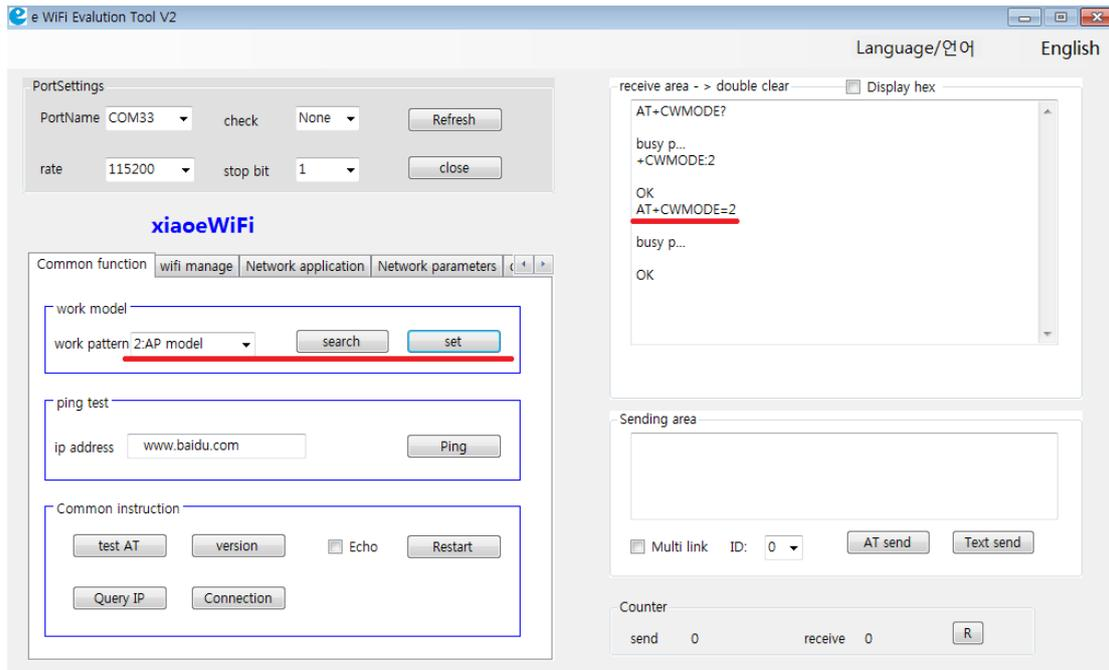

Figure 4-5 Test Software- AP Mode Setting
2、In "common functions" options , please select "AP Mode" in "working mode" and click the "Settings Button". when serial receiving area shows "OK" , it means the setting is completed.Please refer to figure 4-5.